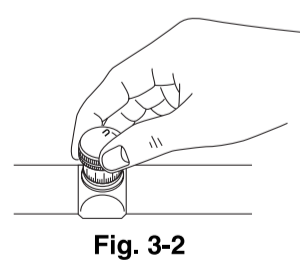

Fig. 3-2
- If the bullet hits under the aiming point, turn the elevation adjustment (counter-clockwise) in the direction of the arrow marked "U" for up as in Fig. 3-2. If the bullet hits high, turn adjustment (clockwise) in the direction of the arrow marked "D" for down.